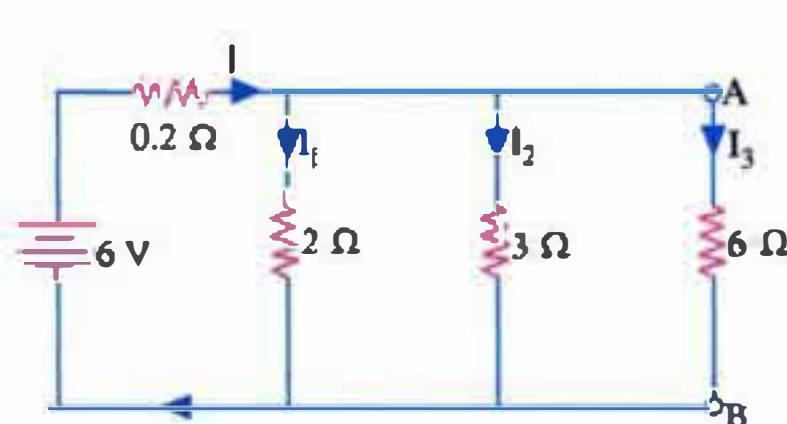

Fig. 2.40
6. In the network of Fig. 2.40, compute